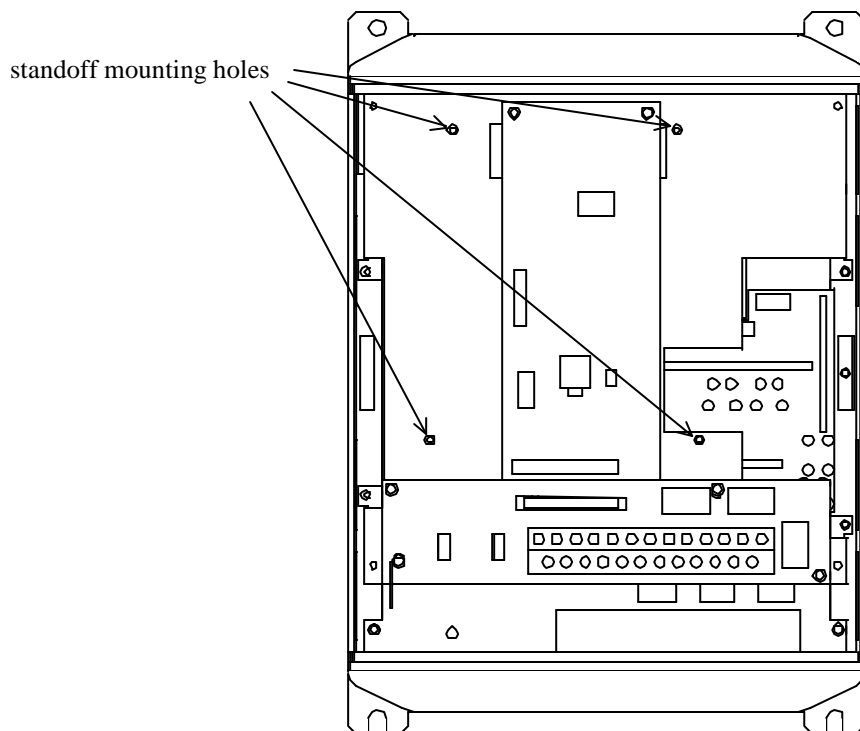

Figure 2: E111 with front cover and operation panel support bracket removed
5. Install the 4 nylon standoffs into the holes provided in the control board support bracket (refer to Figure 2).